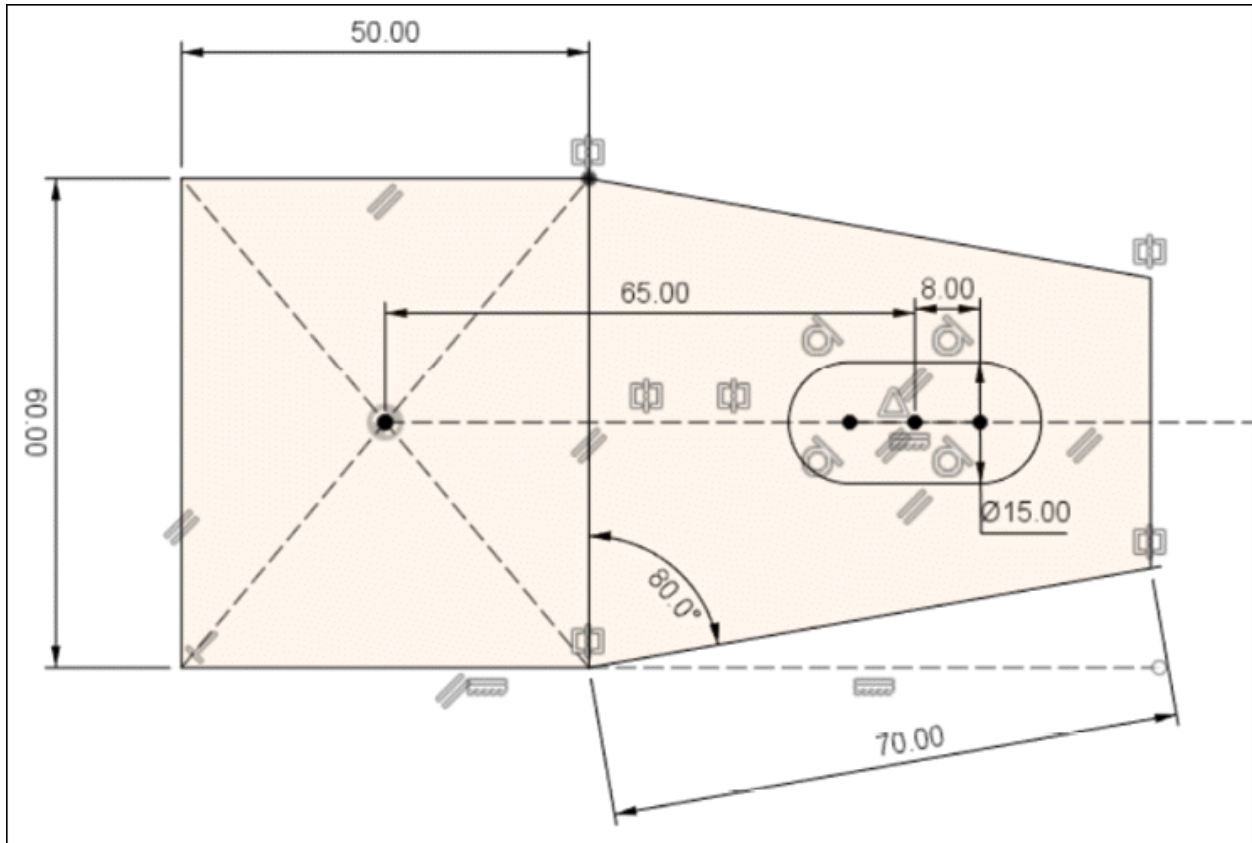

Figure-14. Creating Slot
- Select **Center Point Slot** tool of **Slot** cascading menu from **CREATE** drop-down and create a slot of diameter as **15** and length as **8** at a distance of **65** from origin on the centerline; refer to Figure-14.